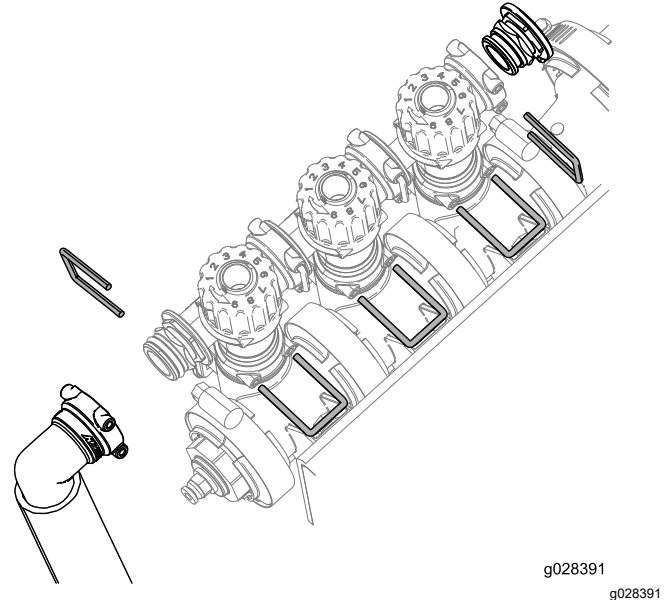

Figure 14
3. Remove the retainers holding the boom bypass valve cluster assembly, end cap, and the fitting and hose assembly as shown in Figure 14.